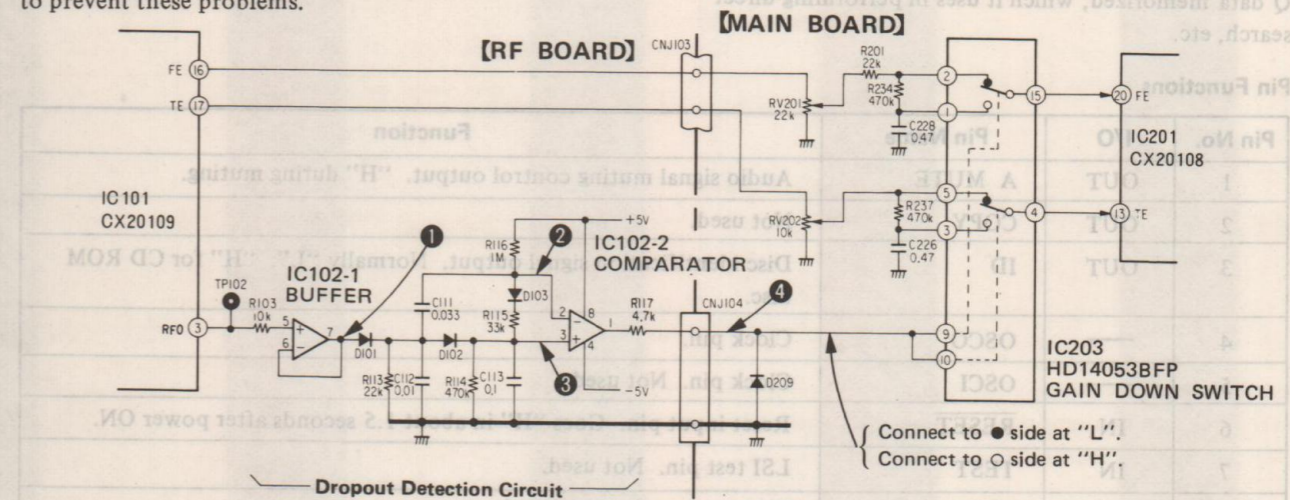

Fig. 1 Dropout Detection Circuit and Gain Down Switch Circuit
Next the operation will be explained. Please look at Fig. 1. During PLAY, the RF signal output from IC101 pin ③ is applied to D101 via IC102-1 buffer. This RF signal is envelope wave detected at D101. Therefore, during normal operation (no bubbles or scratches on the disc) D101 cathode side has a DC component. Bias is applied via D103 and R115 so that IC102-2 comparator output is low at this time. D102, R114 and C113 perform the role of adjusting auto bias relative to RF signal level fluctuation and also act as a smoothing circuit so that IC102-2 bias does not change even if there is dropout.